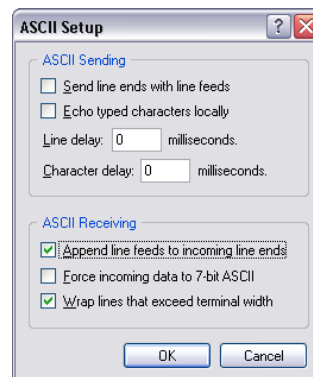

Figure 4: ASCII Setup
- At the main IXDirect HyperTerminal window go to File/Properties and then click on the Settings tab. Click on the “ASCII Setup” button and place a check mark for “Append line feeds to incoming line ends” as in **Figure 4: ASCII Setup** and click OK.